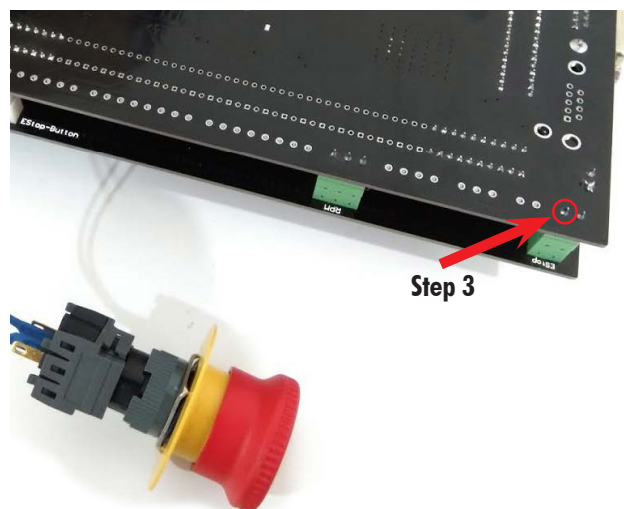

FIGURE 3—The red circle shows where to solder the red wire located above the green, E-stop riser.
3. Solder the red wire that was cut from the E-Stop switch to the contact point shown in Figures 3 and 4.